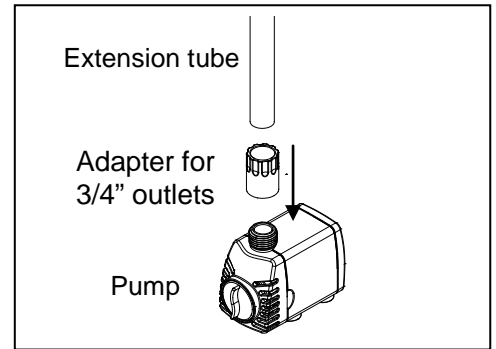

Fig. 3
3. Connect the extension tube to the outlet of the pump using the supplied adapter for 3/4" outlets. Fig. 3